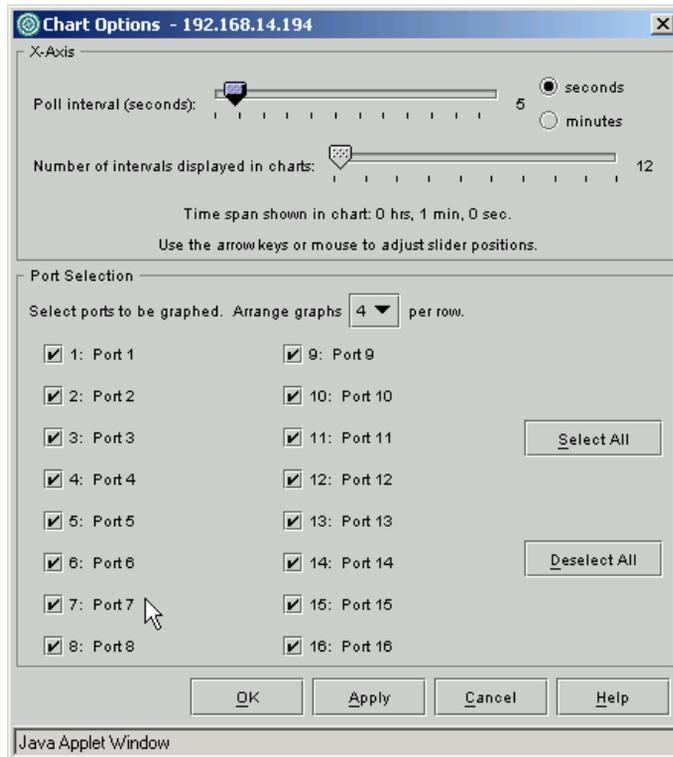

Figure 6-18 Chart Options Dialog Box
- Click the *Options* button to display the *Chart Options* dialog box (Figure 6-18 on page 6-23).